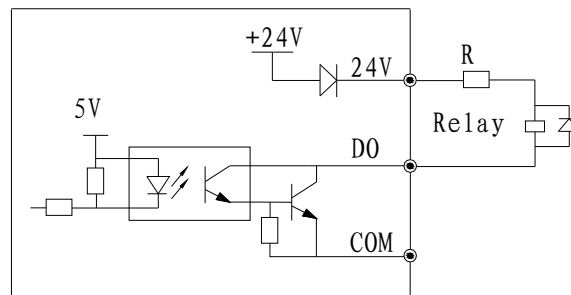

Figure 2-21 On-off output connection mode 1 of multi-function output terminals
1) Multi-function output terminals Y as discrete output can use the internal 24V power supply of inverter and the wiring method is shown in Figure 2-21.